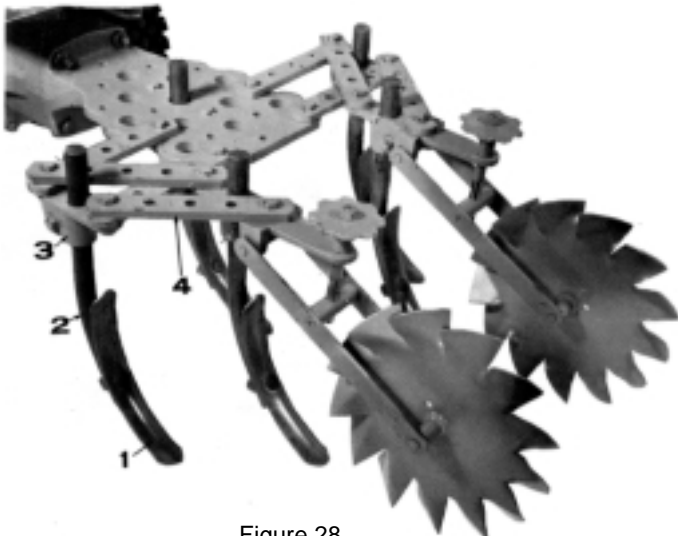

Figure 28
The Cultivator Toolholder, shown in Figure 28, can be used to hold a variety of cultivating tools. The most common set-up of cultivating tools in the Toolholder is shown.
**Attaching Tools to Toolholder:** the individual cultivating tool (1 in Figure 28), is attached to a Shank, (2 in Figure 28), which in turn is attached to the Toolholder by a Shank Holder (3 in Figure 28).
**Parallel Bars:** The Parallel Bars, (4 in Figure 28), can be adjusted in several ways, depending on the task.
Five Steel Set-Up is the standard arrangement; 1 1/4 inch (3.18cm) wide steels are used. (Figure 28).